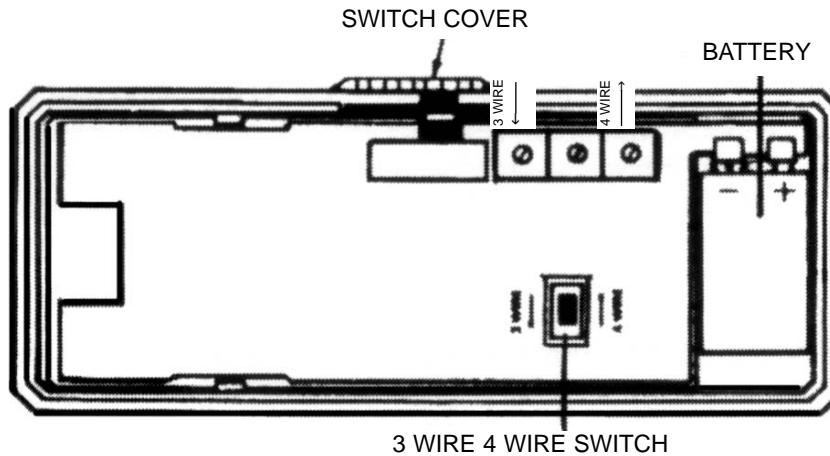

Figure 3. 3-Wire/4-Wire Switch Location
3. Place the 9V battery in the battery compartment as indicated in Figure 3, on page 7. Be sure to observe proper polarity.
- B. Place the 3-wire/4-wire switch (see Figure 3) in the desired position.
The following procedure must be performed with the instrument in the 4-wire mode. See Figure 3 for the location of the 3-wire/4-wire switch which sets the appropriate mode. Access to the switch requires rear cover removal as described in the disassembly instructions.